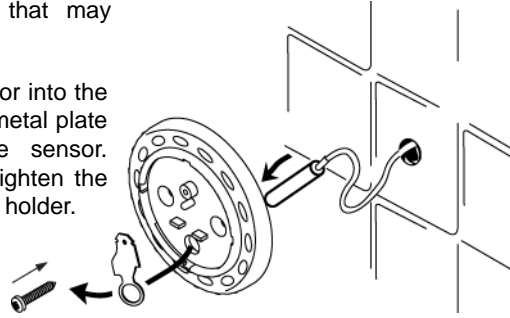

Figure 3
- Apply silicone sealant on the hole in the wall to create a moisture seal (Fig. 3). Make sure that there is no trace of silicone on the sensor as it may interfere its reading.